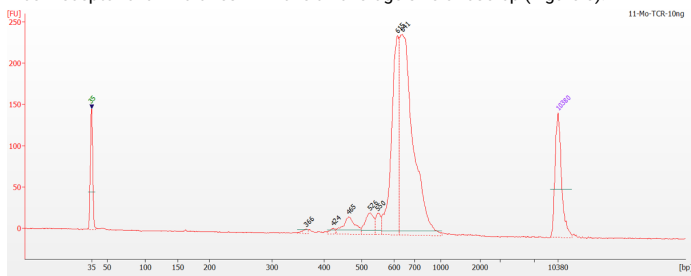

Figure 5. Example of T Cell Receptor library size distribution on a Bioanalyzer.
56.2 T cell receptor chain libraries will have an average size of 630 bp (Figure 5).